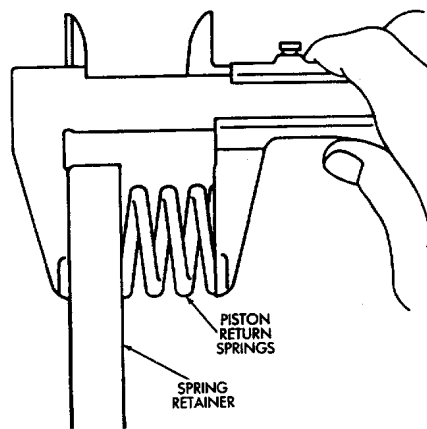

Fig. 16 Checking Piston Return Spring Length
- (18) Measure free length of piston return springs with springs in retainer (Fig. 16). Length should be 16.8 mm (.661 in).